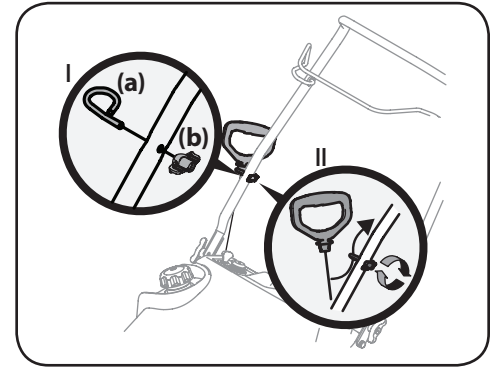

Figure 2-15
2. Place the eye bolt (a) and handle knob (b) on the upper handle as shown in Inset I in Figure 2-15. Do not fully tighten the hardware until instructed to do so.
4. Slip the recoil starter rope into the eye bolt (a) from the back of the snow blower. See Inset II in Figure 2-15.